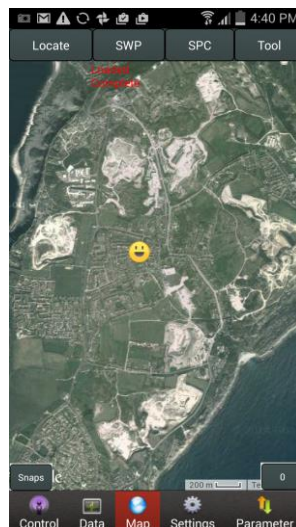

Figure 53
2. Select a point on the map interface, a yellow smiley will appear at that point, as shown in Figure 53.